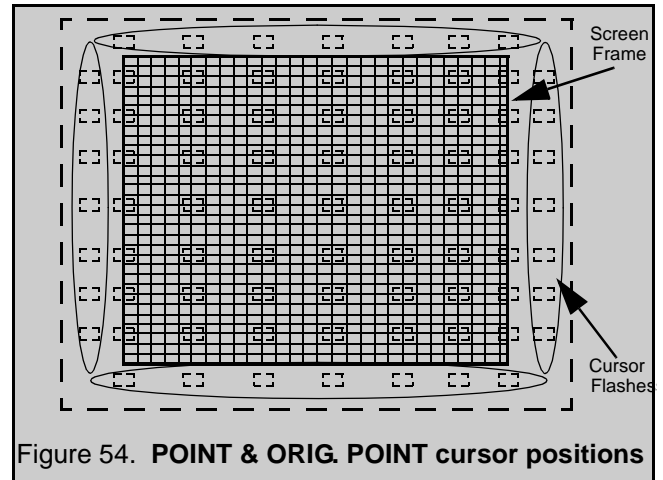

Figure 54. **POINT & ORIG. POINT cursor positions**
14. "POINT" mode allows to move line horizontally and vertically from the perimeter of cursor making rounded lines become straight (see figure 54)
16. When the cursor is located in the outer area of the border the cursor starts to flash from one side to other and the adjustment is for the non-visible area (inside the ovals area, see figure 54); This applies to "LINE", "POINT" & "ORIG. POINT" modes.